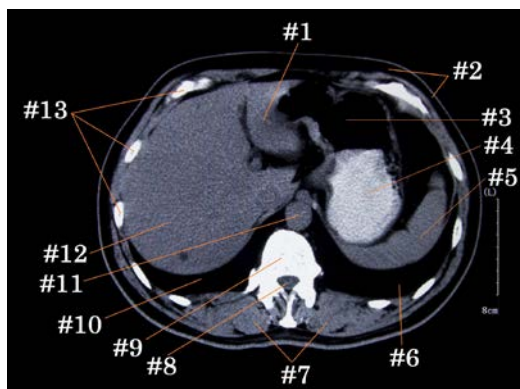

Figure 3-27. CT axial cross-sectional image of the upper abdomen.
6. Identify the upper abdomen cross-sectional anatomy displayed in figure 3-27.